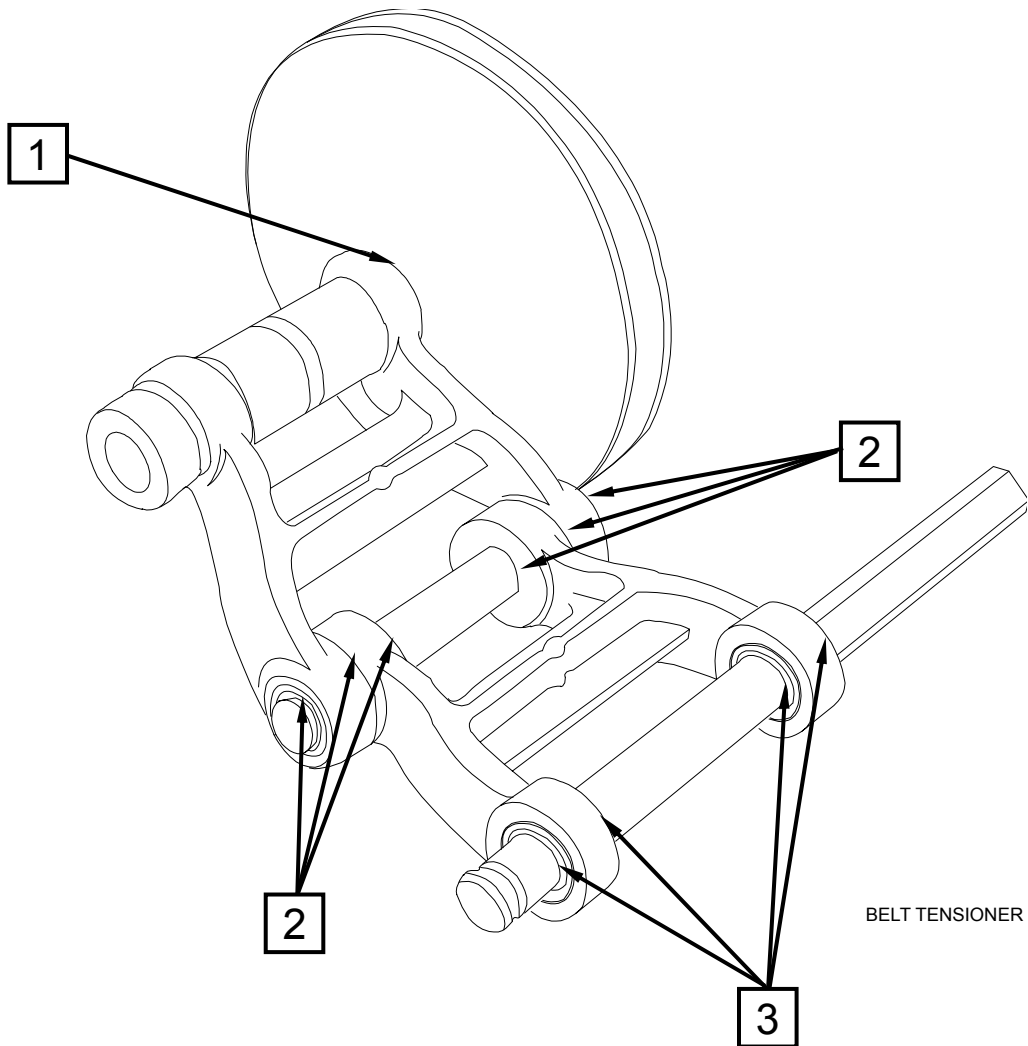

Figure 3-3
3.3.3 BELT TENSIONER - Figure 3-3